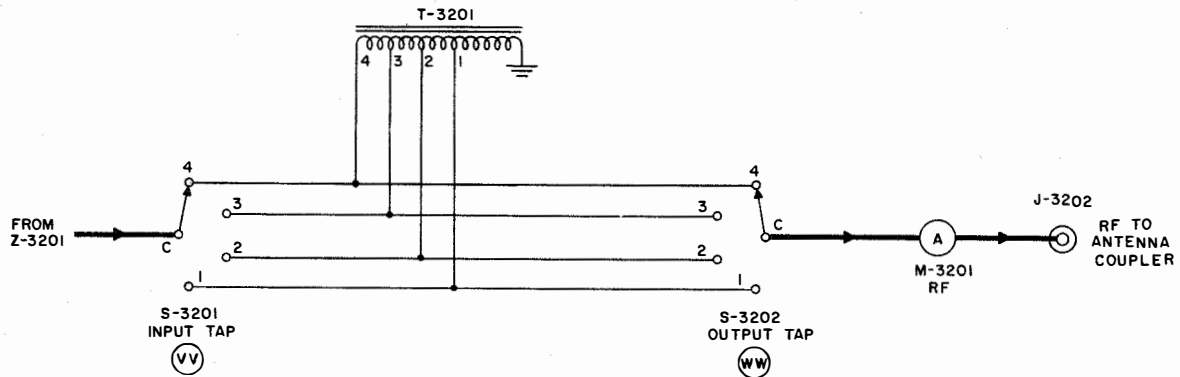

Figure 2-117. Impedance Transformer Circuit, Simplified Schematic
c. IMPEDANCE TRANSFORMER CIRCUIT.—To improve the impedance match between the characteristic 50-ohm output impedance of the r-f output from the radio frequency amplifier (RFA) and the impedance presented to RFA by the antenna and the antenna tuning equipment, an autotransformer, T-3201 (figure 2-117), is introduced into the r-f transmission line. The r-f energy from the output of the RFA, after passing